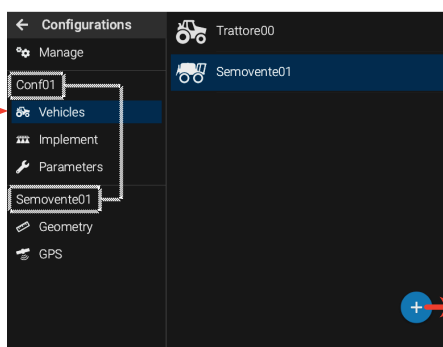

Fig. 31
Vehicles saved are used by linking them to the configurations: the pairing is performed in **Configurations > Vehicles** menu and is displayed in the left column (Example in Fig. 31: **Self-propelled00** is the vehicle used in **Conf01** configuration).
The vehicle in use is highlighted, example **Self-propelled00** in Fig. 31.
- In **Configuration > Vehicles** menu, press **+** (Fig. 31) and select the type of vehicle you want to create: **Tractor** or **Self-propelled**.